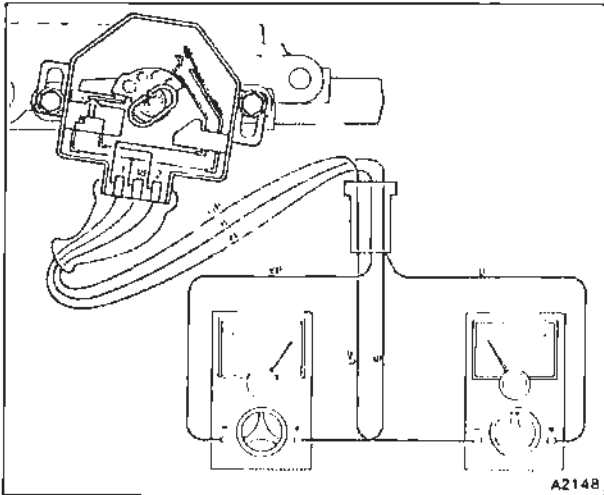

Fig. E6-4 Throttle position switch – idle speed condition
- With the throttle plates closed only switch contacts 2 and 18 are connected (see fig. E6-4).